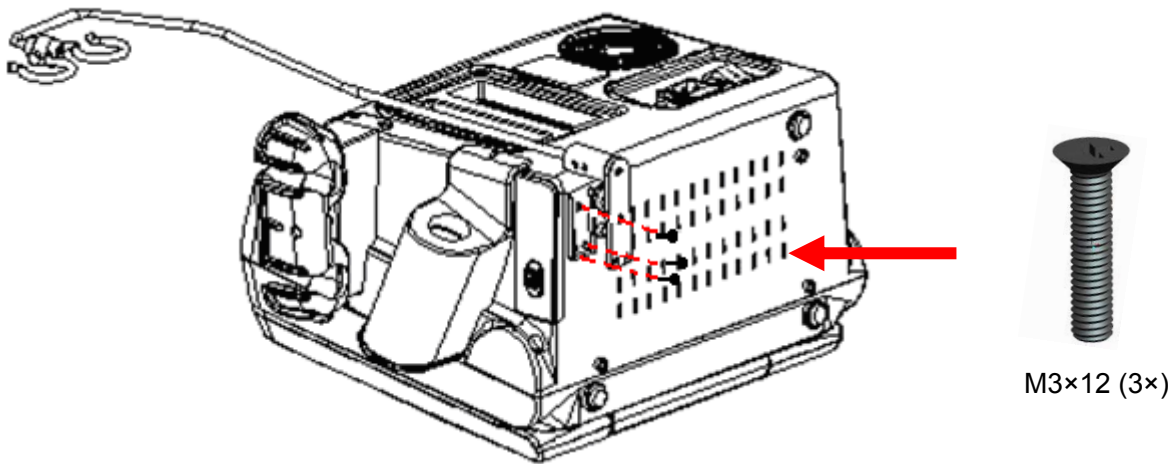

Figure 4-1 Assembling Cable Holder to Main Unit
3. Carefully turn the main unit upside down and put it on the packing foam and assemble the screws to the main unit with a cross-head screw driver as shown in figure 4-1.